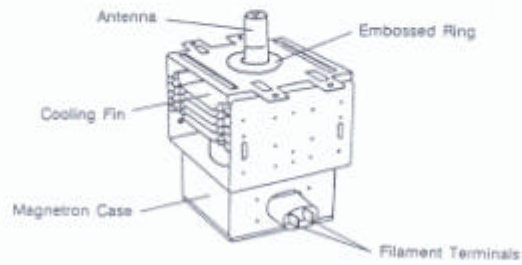

Fig. 10.2
- (1) To prevent microwave leakage, tighten mounting nuts properly making sure there is no gap between the waveguide and the magnetron.
- (2) Never install the magnetron without the embossed ring (refer to Fig. 10.2) which is packed with each magnetron to prevent microwave leakage.
#### 10.4 Magnetron (Fig. 10.2)